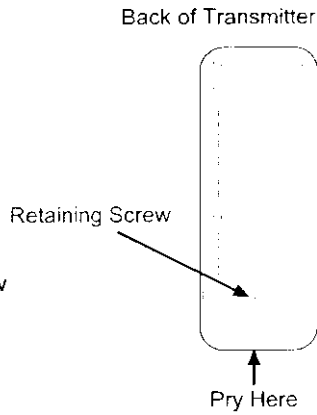

Figure 3. Retaining Screw Location
- 2) Remove the retaining screw on the back of the enclosure (see Figure 3).